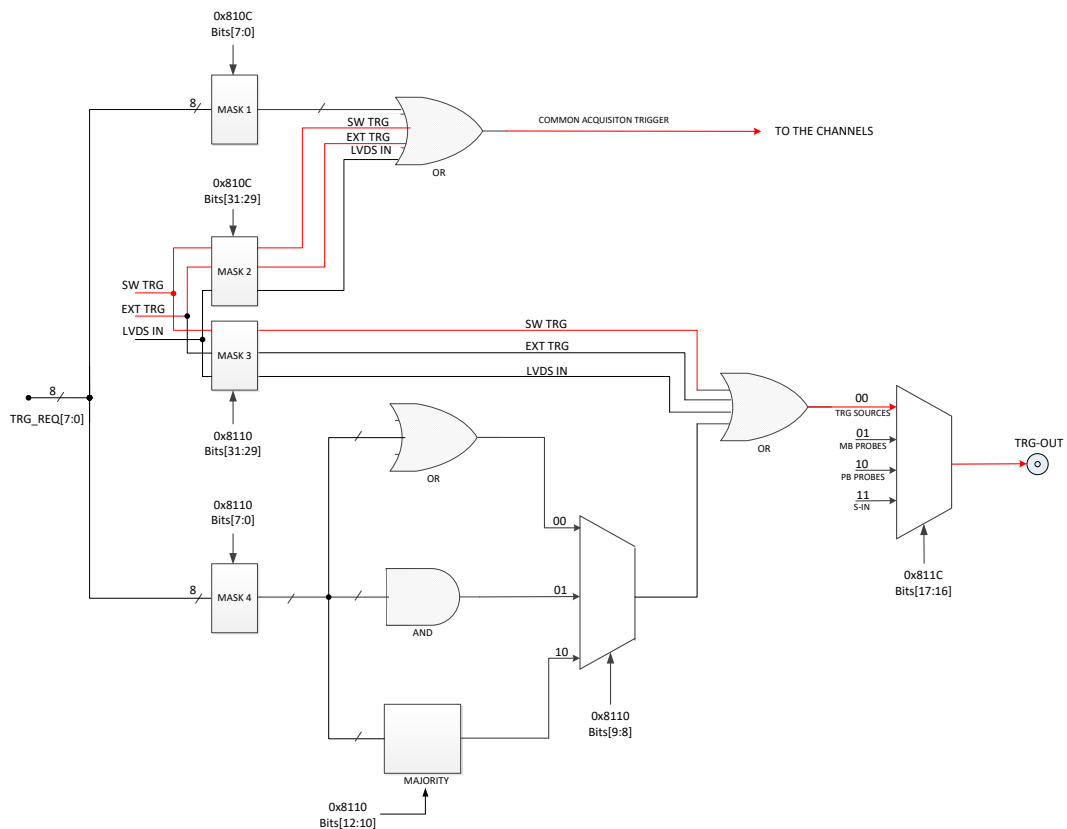

Fig. 10.18: Trigger configuration of TRG-OUT front panel connector
LVDS I/O specific pins on the front panel dedicated connector can be programmed as trigger inputs and enabled to participate in the common trigger generation with other trigger sources. See Fig. 10.18 and refer to Sec. 10.9 for details.
As described in Sec. 10.7, the OR of all the enabled trigger sources, synchronized with the internal clock, becomes the common trigger of the board that is fed in parallel to all channels, consequently provoking the capture of an event. By default, only the Software Trigger and the External Trigger participate in the common acquisition trigger (refer to the red path on top of Fig. 10.18).
Thanks to its configurability (see Fig. 10.18), TRG-OUT can propagate:
- the OR of all the enabled trigger sources (only the Software Trigger is provided by default, as in the red path of Fig. 10.18);